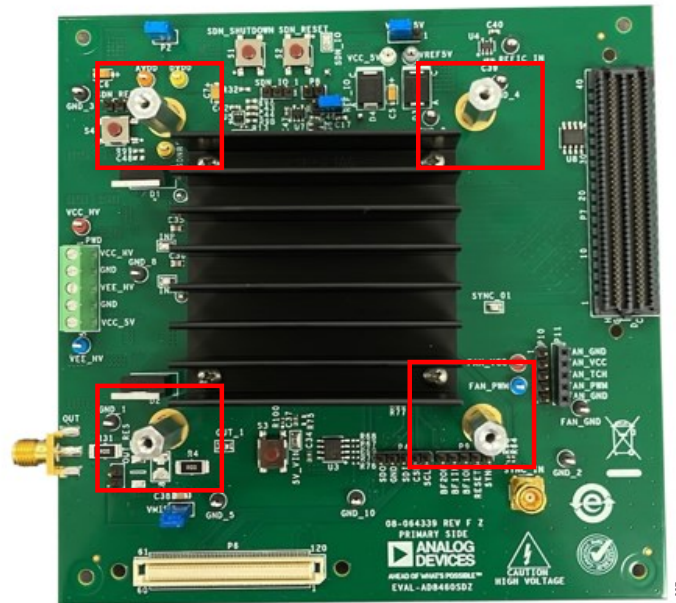

Figure 8. AD8460 Evaluation Board with Fan Standoffs Attached
4. Secure the four fan standoffs (PN 2114-440-AL) onto the board with four screws (PN 9900) from the bottom of the board, as seen in Figure 8.